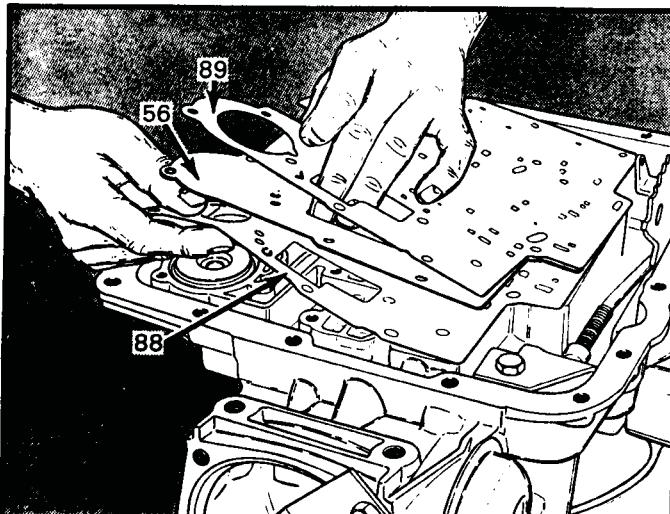

Figure 189
7. Install case to spacer plate gasket over dowel pins and onto the case surface. This gasket is stamped with a "C" for identification (See Figure 189).
9. Install spacer plate to valve body gasket over dowel pins and onto the spacer plate. This gasket is stamped with a "V" for identification (See Figure 189).
1. Rotate transmission so that bottom pan area is facing up, as shown in Figure 189, and lock fixture.